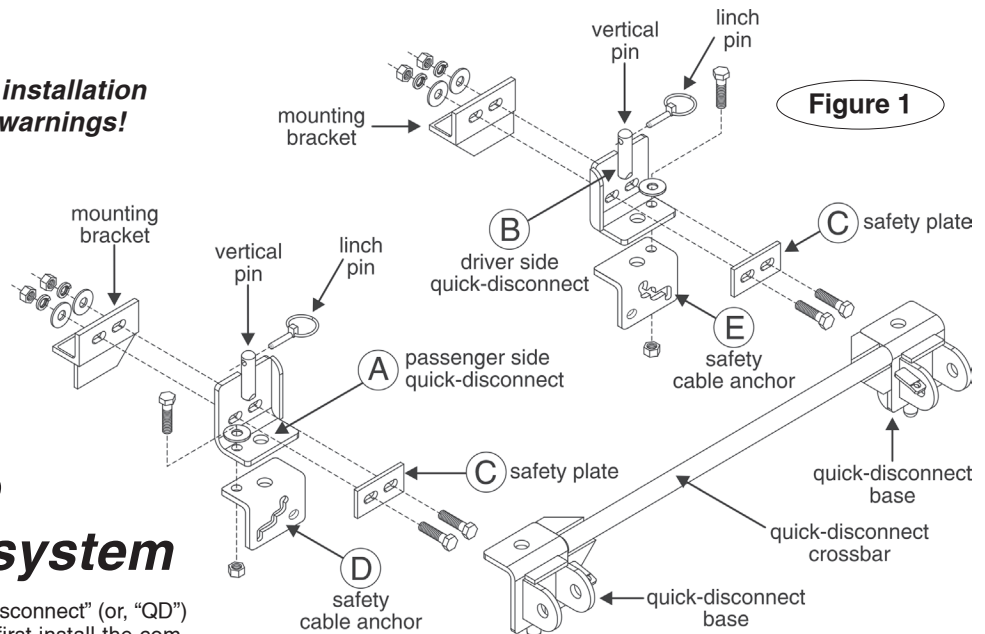

Figure 1
1. First, attach the quick-disconnects ("QDs," parts "A" and "B" in Figure 1) to the tow bar mounting brackets. Attach the QDs so that the vertical pin on each is pointing up, as shown in Figure 1.
Attach part "A" on the passenger side, and part "B" on the driver's side. Use the supplied ½" x 1¼" bolts, the two safety plates (parts "C"), and the flat washers, lock washers and nuts, as shown in Figure 1.
Both QDs have cable anchors – parts "D" and "E" in Figure 1 – designed for safety cable attachment. Bolt cable anchor "D" to part "A," and cable anchor "E" to part "B," using the supplied ½" x 1" bolts and nuts.